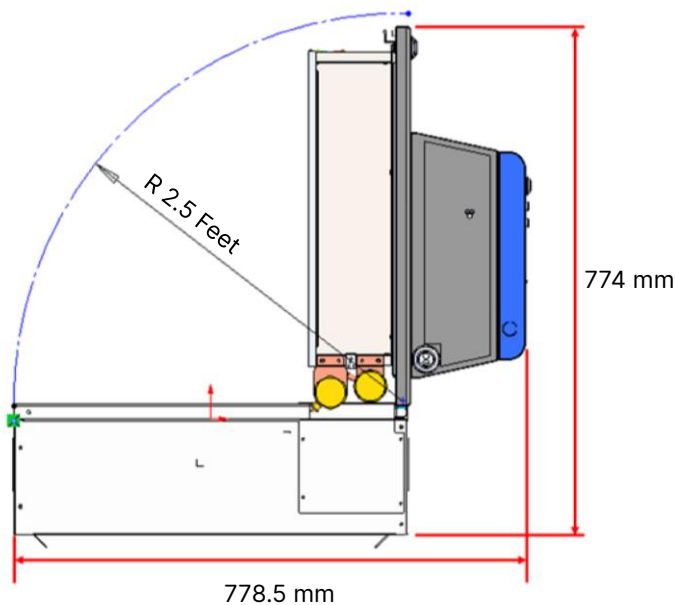

Figure 3-1: Clearance Area
1. To ensure normal operation of the indoor unit, whenever possible, select a spacious room to install the indoor unit in. It is advised to leave at least 2.5 feet on the rear where the door opens to facilitate wiring and piping, as is shown in **Figure 3-1**.